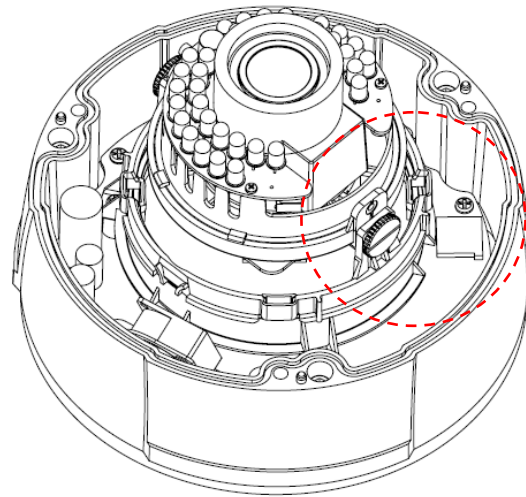

Figure 2.3.4
Step 2: Please adjust the proper position to install the SD card. Figure 2.3.4